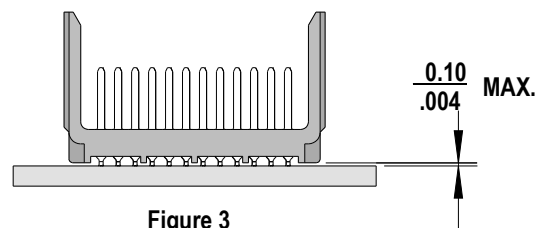

Figure 3
3. Using the application tool and an appropriate press, seat the header assembly until there is less than 0.10mm (.004 in) clearance between the bottom of the plastic housing and the surface of the PCB. See Figure 3.